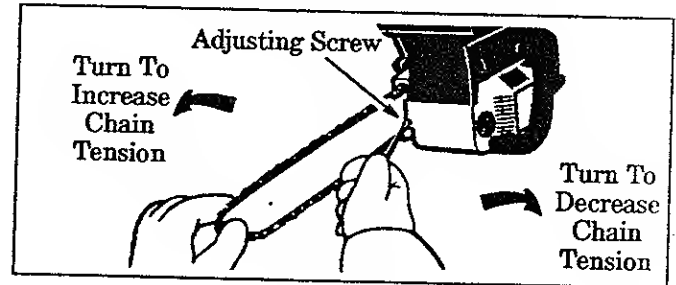

Figure 8
- Turn the adjusting screw (Figure 8) counterclockwise to move the adjusting pin almost as far as it will go to the rear.
- Turn the adjusting pin clockwise until the chain is snug in the guide bar groove. Figure 8.
1. Lift up the tip of the guide bar and turn the adjusting screw clockwise until the chain does not sag beneath the guide bar. Figure 8.